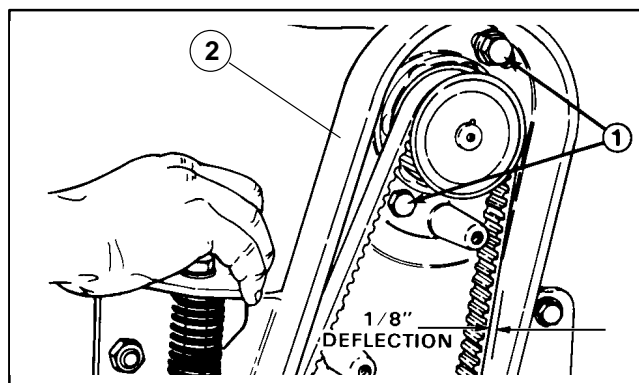

Figure 15
3. Insert two (2) reel drive motor mounting bolts (heads on the inside of the drive housing with flat washer on the top bolt through the reel motor flange holes. Thread locknuts onto the bolts. Rotate reel motor upward in the slotted hole in the housing to tension the drive belt. Tighten fasteners to 25 ft-lbs (34 Nm). NOTE: (Fig. 15).